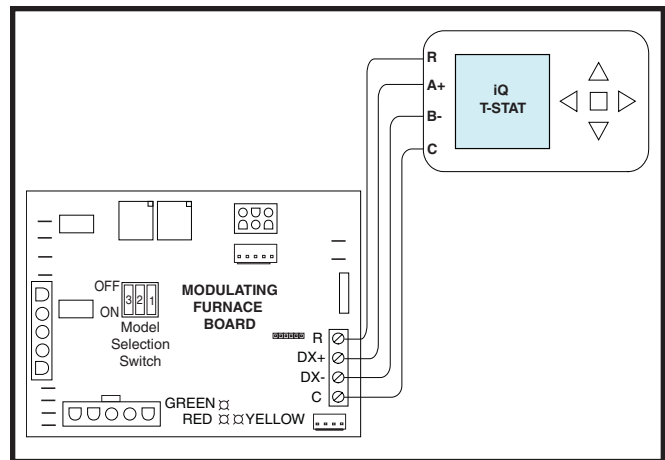

Figure 19. Low Voltage Field Wiring
The Model Selection switches (Figure 19) are set by the factory and should not be changed in the field. Altering the switch settings will cause improper furnace operation. Consult your training manual for additional details.
*MQ furnaces cannot be controlled by conventional thermostats. Only an iQ Drive® thermostat available from your distributor may be used to operate the *MQ furnace. Field wiring instructions for all iQ system equipment can be found in the iQ Drive System Field Wiring Instructions (P/N 709031). The iQ Drive® thermostat (Figure 19) is connected to the furnace by running 4 wires from the thermostat to terminal P5 on the furnace control board. **Field supplied wiring is recommended to be a 4 wire shielded cable and must be a minimum of 18 gauge.**
- ✓ Verify the thermostat wires (**R**, **DX+**, **DX-**, and **C**) are securely connected to the correct leads on the terminal strip of the circuit board. See Figure 19 (page 22).